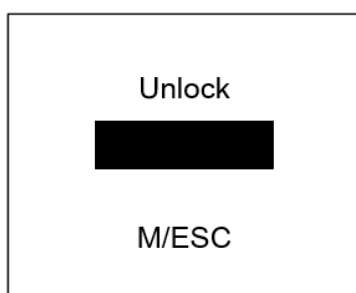

Figure 7-1
- For the interface shown in Figure 7-1, press "ESC", "ENTER", "UP", and "DOWN" corresponding to the text that appears at the bottom of the screen to unlock it.